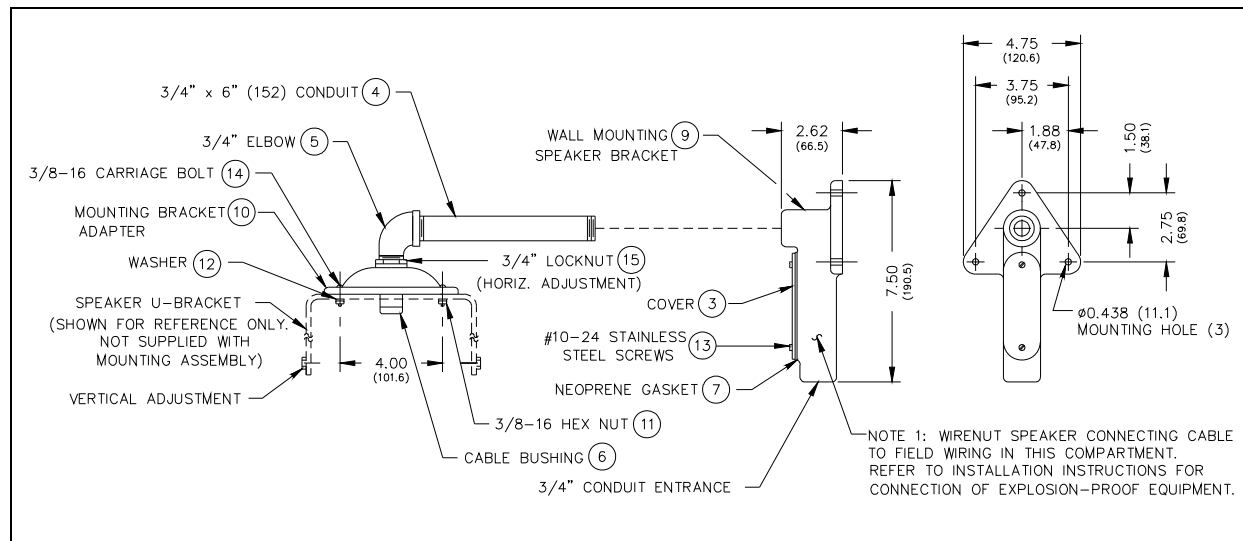

Figure 1. Speaker Mounting Details
See Figure 1 for the location of items with ID numbers.
8. Tighten the cable bushing nut (see Note 1 in Figure 1).